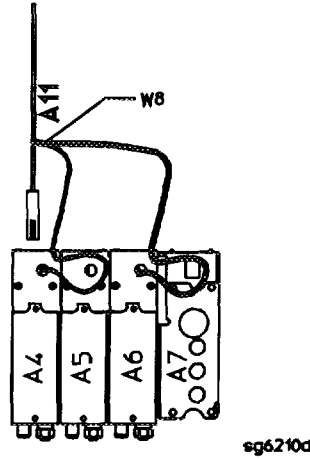

Figure 4-7. Connections for Substituting the R Sampler (A4)
- a Move cable W8 to the B sampler (A6), as shown in Figure 4-7.